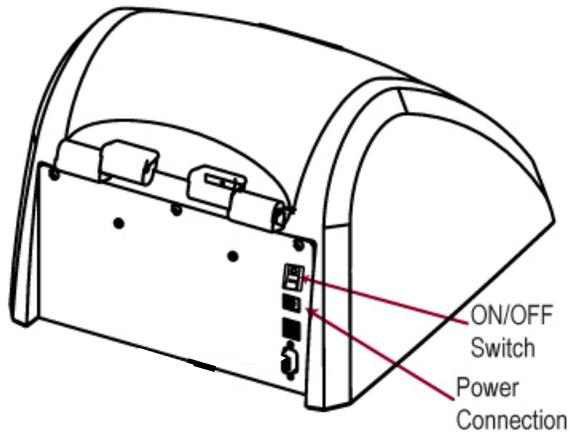
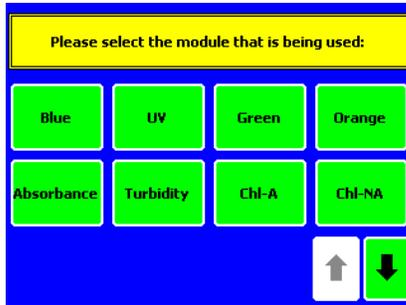

Figure 1.
Figure 3 Module Selection Screen
Connect the power supply into the power connection of the instrument, see Figure 1, and plug it into a wall outlet. See Specifications for power requirements.
2. Turn on the On/Off switch located on the back of the Trilogy, see Figure 1. Verify the display becomes active, and shows the module selection screen, see Figure 3 – Module Selection.